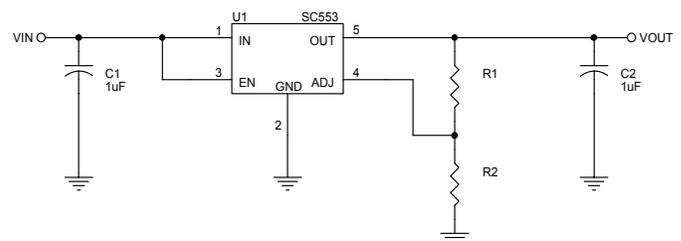

Figure 1
**External voltage selection resistors** - the use of 1% resistors, and designing for a current flow  $\geq 10\mu A$  is recommended to ensure a well regulated output (thus  $R2 \leq 125k\Omega$ ). The output voltage (referring to Figure 1 below) will be: